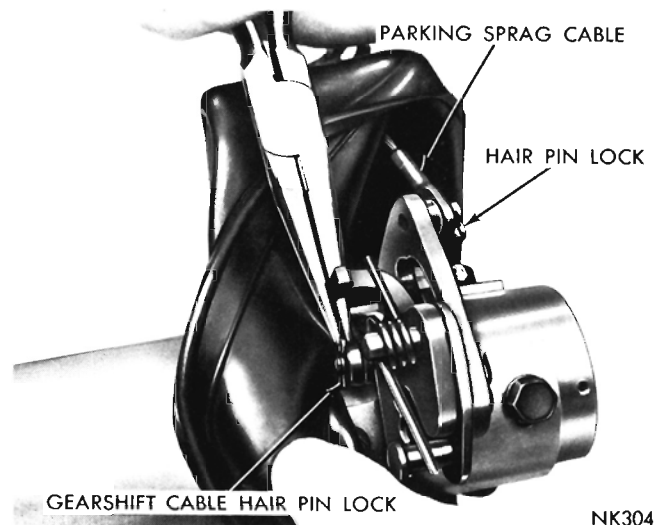

Fig. 9—Removing or Installing Cable Hair Pin Locks
(5) Place the gearshift lever in the “low” position, carefully work the seal (boot) upward and remove the hair pin locks securing cables to their operating levers (Fig. 9). Remove the cable assemblies, then slide the seal upward on the column jacket.
(12) Install the parking sprag cable first, secure it to the sprag lever pin with the hair pin lock (Fig. 9). Install the gearshift cable, secure it to the shift arm pin with the hair pin lock. Align the seal boot and cable lock plates, then install the rubber washer, metal washer and nut. Tighten the nut securely.